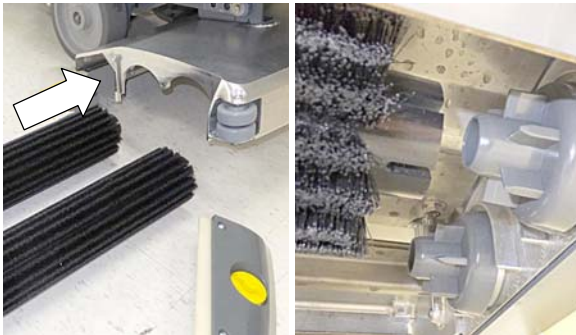

FIG. 19
4. Slide the brushes into the scrub head and connect the slotted ends of each brush into the drive hubs (Figure 19).